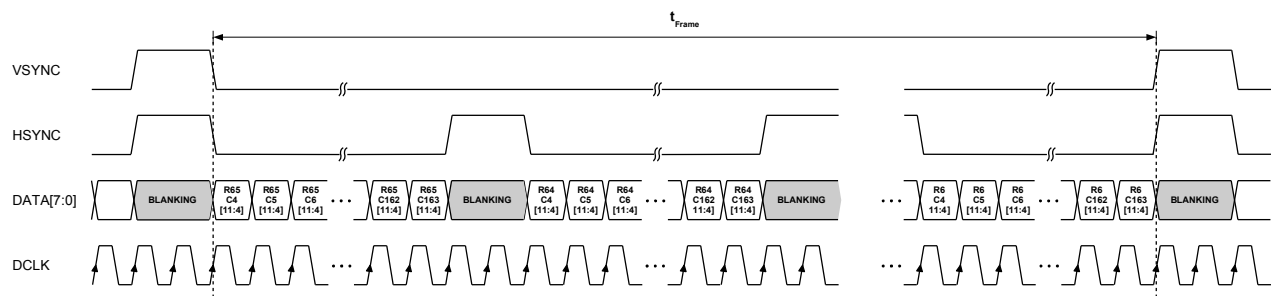

Figure 31: 8-bit mode
- 8-bit mode: Transfers the 8 MSB bits of the pixel data with 1x DCLK. Refer to Table 15 and Figure 31.